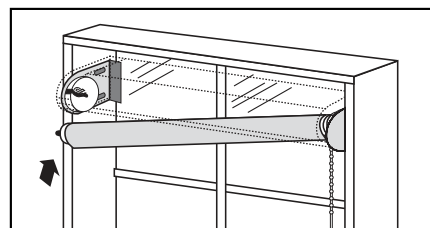

Fig 8
- b. Then insert the Idle End Plug into the Idle End Unit, and snap the Idle End Unit securely into place (Fig 8).